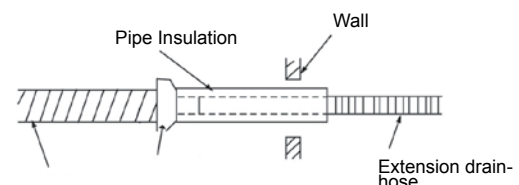

Fig. 10
- When extending the drain hose, with locally purchased hose, insulate the connection with armaflex or similar pipe insulation material. (Fig. 10)